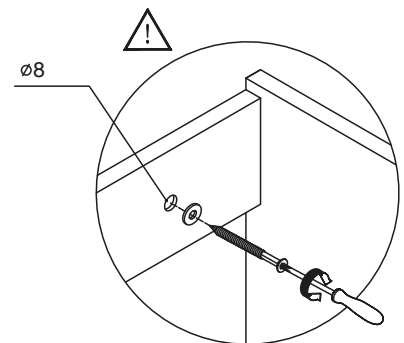

Fig.8
11. Apply a washer to the screw before tighten it. Make sure the washbasin cabinet has been fixed firmly on the wall. See Fig.8.